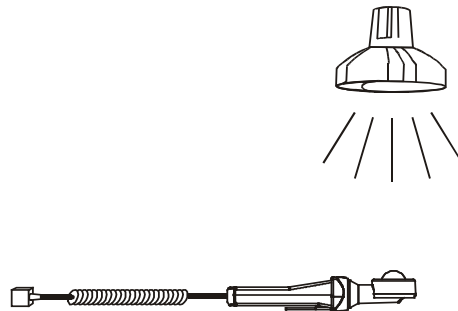

Figure 5.46: Positioning of the luxmeter
- ❑ Switch the luxmeter on and position it underneath the light source (see figure 5.46).